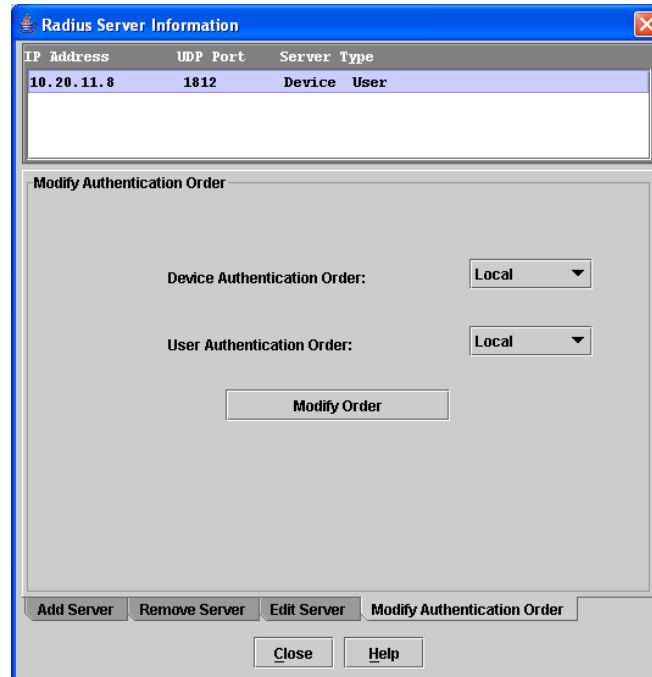

Figure 3-4. Modify Authentication Order - RADIUS Server Information
2. In the Radius Server Information dialog, shown in Figure 3-4, click the **Modify Authentication Order** tab.